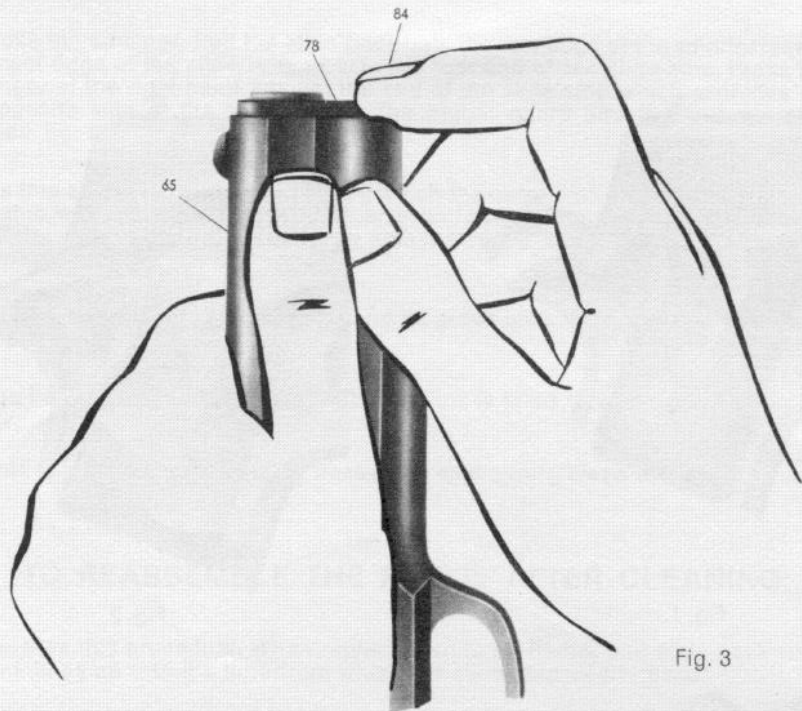

Fig. 3
1. First, check to be sure that there is no cartridge left in the firing chamber. Depress the magazine catch button (29) on the left side of the pistol back of the trigger, and withdraw magazine.
2. Push the recoil spring plug (84) below the barrel muzzle inward with the index finger of the right hand (or butt of magazine) far enough to permit the barrel bushing (78) which locks the barrel to be turned to the right until the plug goes forward under the tension of the recoil spring. (Care should be taken not to let the plug to jump away). (See fig. 3 and 4).